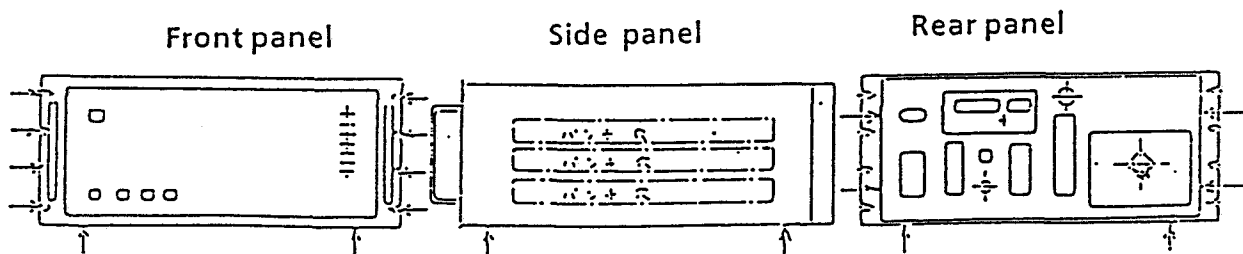

Fig. 9 Fixing positions of the control unit
- (3) Screw the front panel on the rack. Protect the control unit and the rack from damage by pushing them from left and right sides as shown in Fig. 9.
- (4) The control unit inhales and exhales cooling air from the upper, lower and side faces. DO NOT prevent air flow taking a space of more than 2cm between each face and the wall, etc.
- (5) DO NOT bend the cables taking the space of more than 15cm between the rear face of the control unit and the wall.